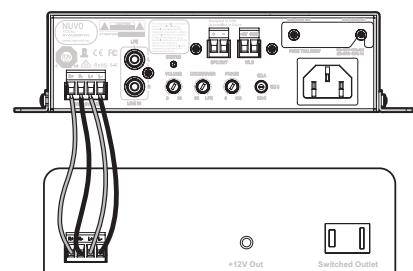

Fig. 6
**c. Use a high-level in connection (for NV-SUBAMP100-xx models) See Fig. 6:**